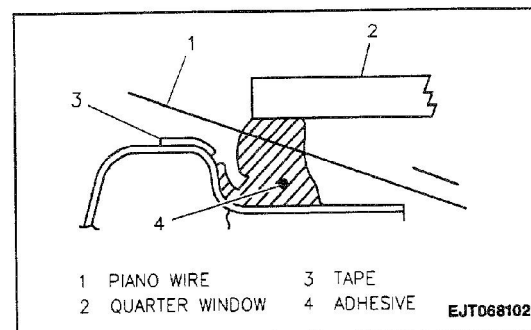

Figure 16—Quarter Window and Adhesive
6. Cut adhesive all around quarter window with piano wire (Figures 16).